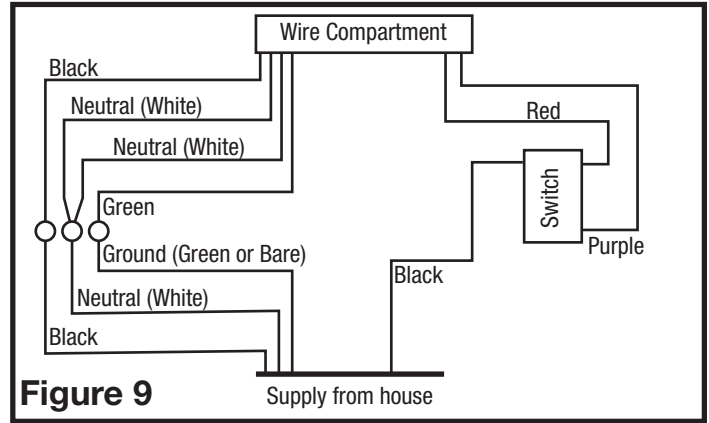

Figure 9
3. For two speed fans wired for continuous ventilation, connect the White wires of the fan to the White (Neutral) wire from the power source. Connect the ground wire from the house to the green wire from the fan housing. Connect the Black wire of the fan to the Black wire (Hot) from the power source. The fan will operate on low speed continuously and boost to high speed when motion is detected. Using a properly grounded standard duplex toggle switch (such as Leviton 5224-2W, not included) connect the black wire from the supply to one side of the top and bottom switch. Connect the red wire (light) from the fan housing to the other side of the top switch and connect the purple wire (night light) from the fan housing to the other side of the bottom switch. A manual override switch (not included) can be used to provide a manual fan Off function (Figure 9).